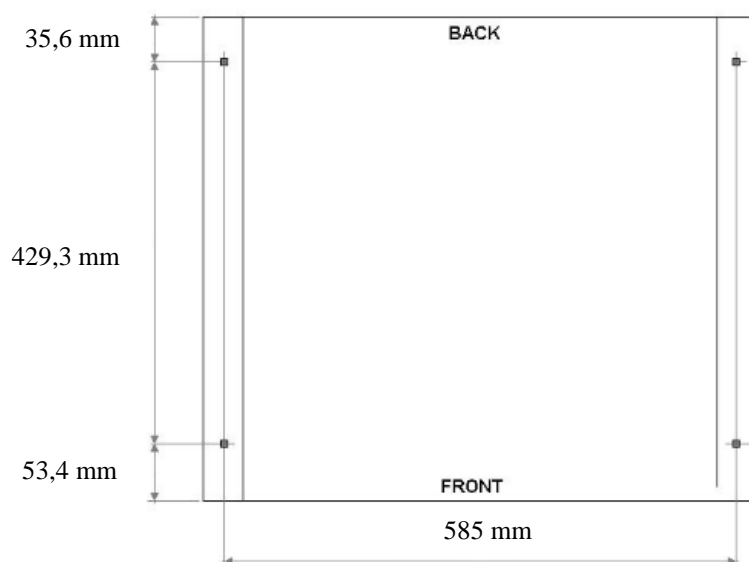

Figure 4- 2 Bolt Pattern for DVS150 Installation
- Install on a cement pad minimum 18cm (7") above surrounding curbing or walkways for water flood control, see Figure 4- 1
IMPORTANT INFORMATION – SAVE THESE INSTRUCTIONS**Figure 4- 1 DVS150 Installation**